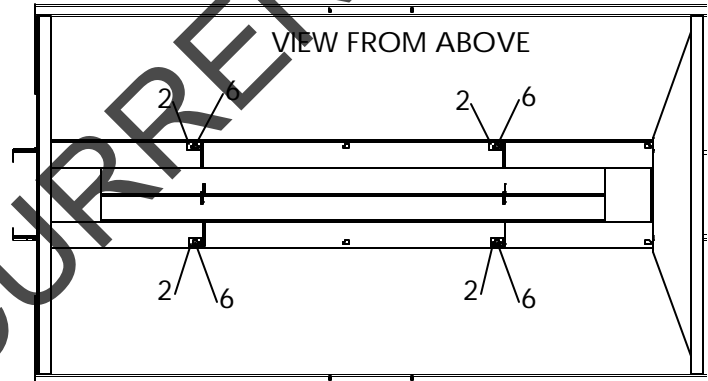

Figure 3 – Inverted "V" Installation
Remove four chain shield bolts (6). Position Inverted "V" as shown in Figure 3, with Support (2) slots over chain shield holes. Attach Supports (2) to spreader using chain shield hardware (6).